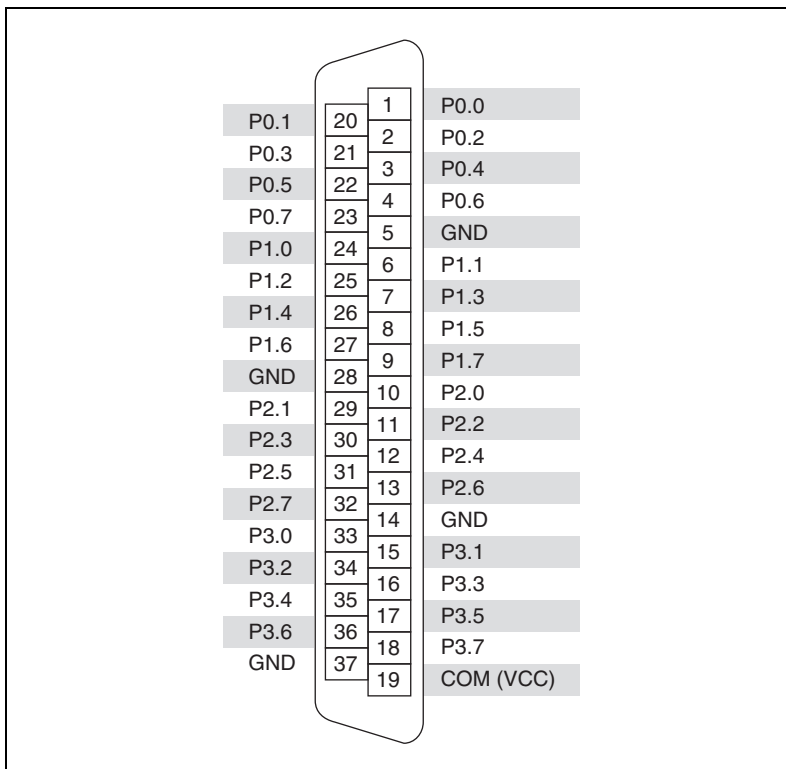

Figure 3-13. NI 6517 Pin Assignments
Figure 3-13 shows the pin assignments for the SH37F-37M cable when connecting to the NI 6517 device. The naming convention for each pin is $PX.Y$, where X is the port (P) number, and Y is the line number or name.